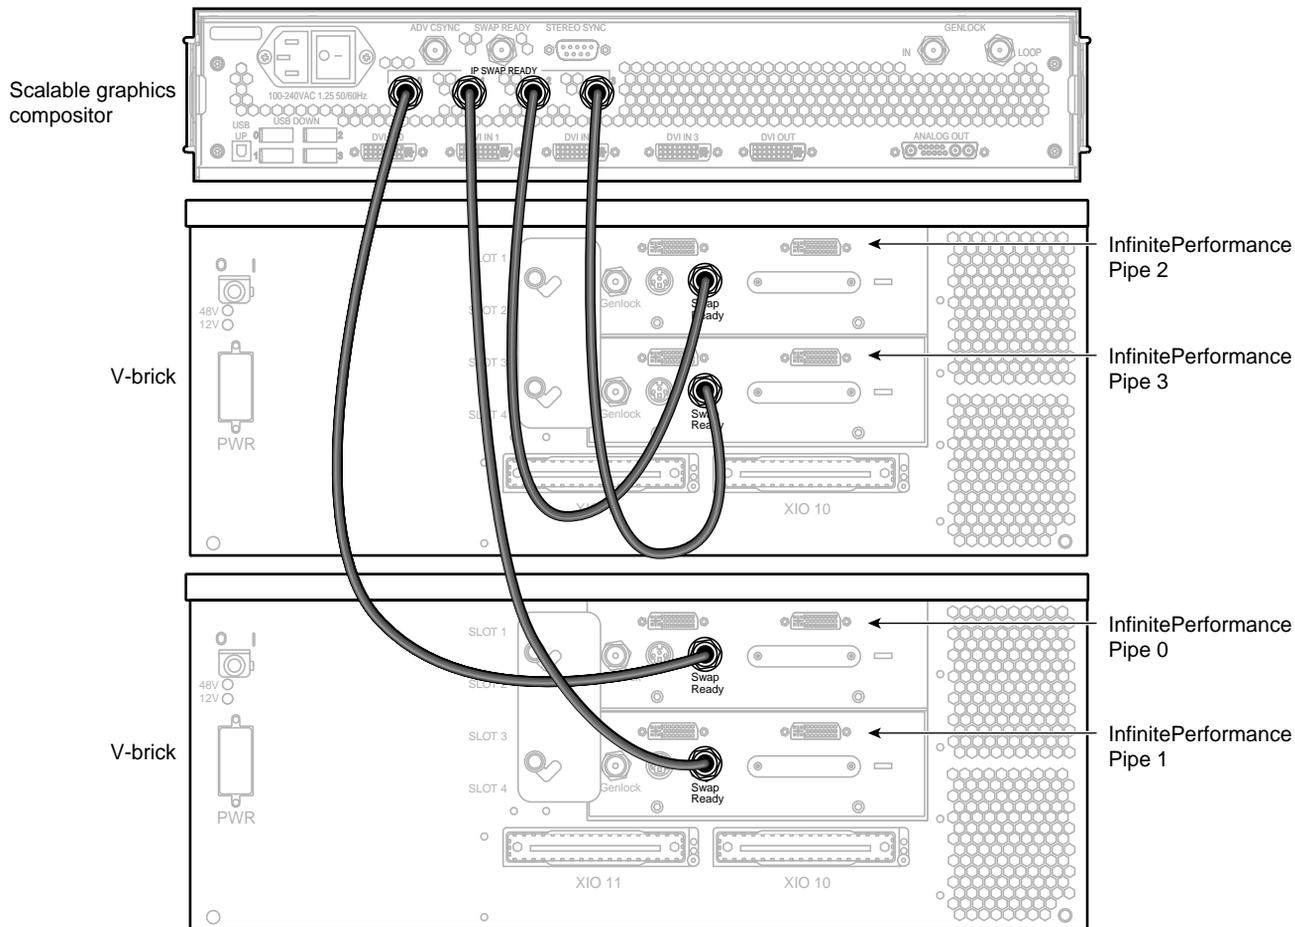

Figure 3-12 Connecting the Swap-Ready Connectors
- Using the 75-ohm BNC cables, connect the InfinitePerformance swap-ready connectors to the swap-ready connectors on the compositor in the following order (as shown in Figure 3-12): pipe 0 to IP SWAP READY 0, pipe 1 to IP SWAP READY 1, pipe 2 to IP SWAP-READY 2, and pipe 3 to IP SWAP-READY 3.